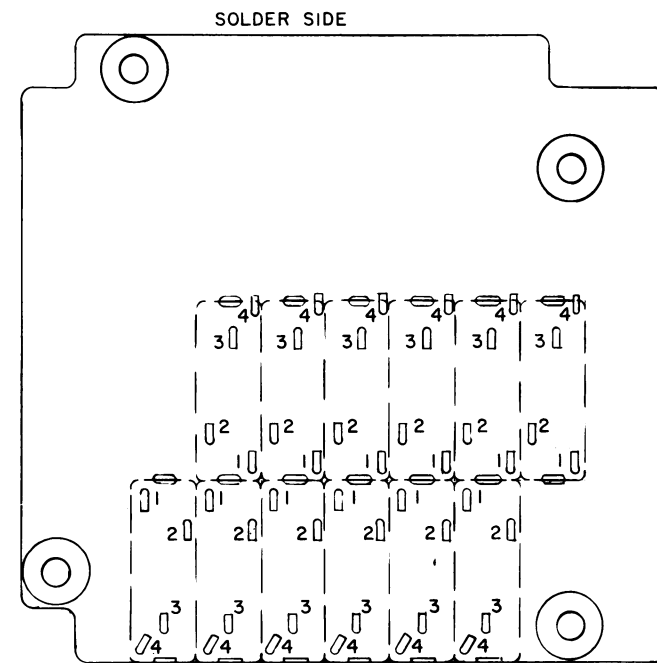

Figure 2 - Oscillator Module Installation
2. Place the oscillator module(s) in the proper holes (see Figure 2). Then bend over tabs on the can and tack solder to pattern.
3. Bend the leads of the oscillator module as shown in Figure 2 (or appropriate Outline Diagram) and solder to the adjacent pads.